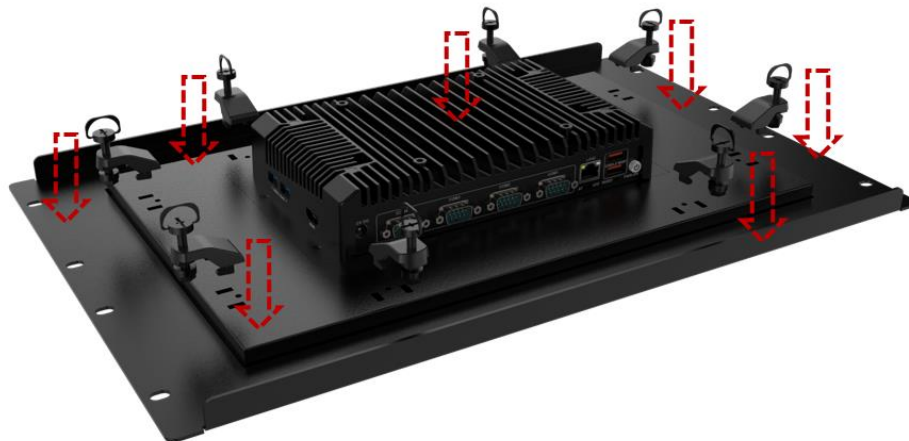

Figure 3-27: Installation Panel Mount Kit
Step 8: Insert the panel mount kit into the prefabricated holes along the rear edge of the PPC2-xxx-ADLP Series (**Figure 3-27**). The required number of mounting clamps may vary by models.